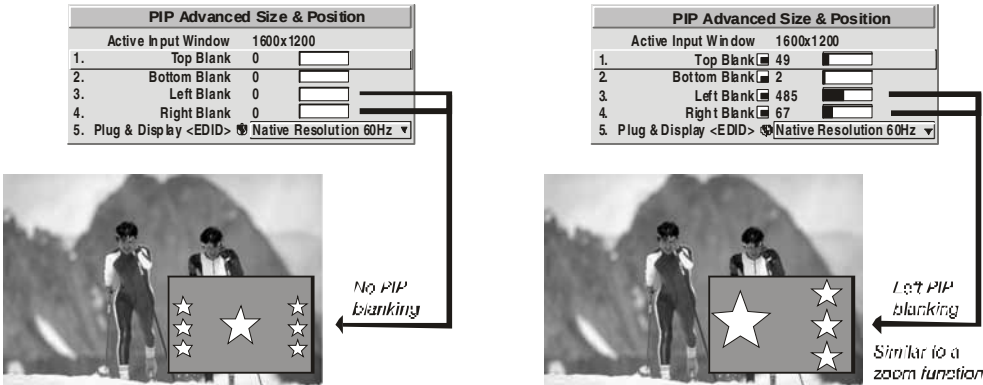

Figure 3-21 Blanking of a PIP Image
**NOTE:** Blanking a PIP image resembles zoom (refer to Figure 3-21). For example, left Blanking zooms the right side of the PIP image; Right Blanking zooms the left side. There are no black bars.